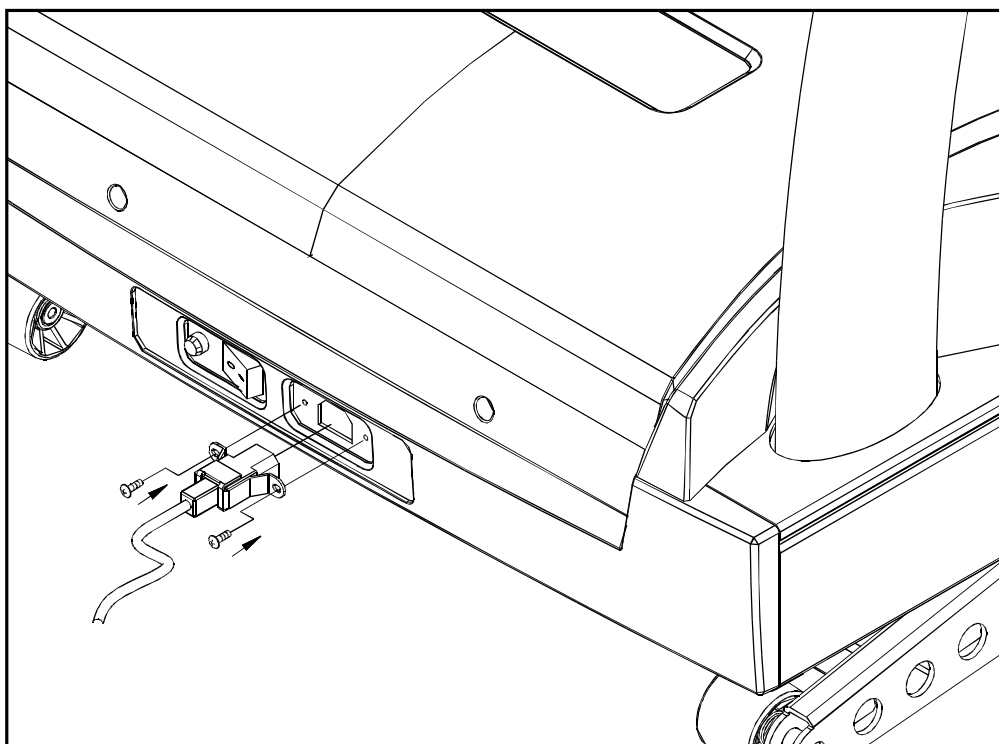

Fig.10
10. Assemble the power cord onto treadmill. (see Fig.10)